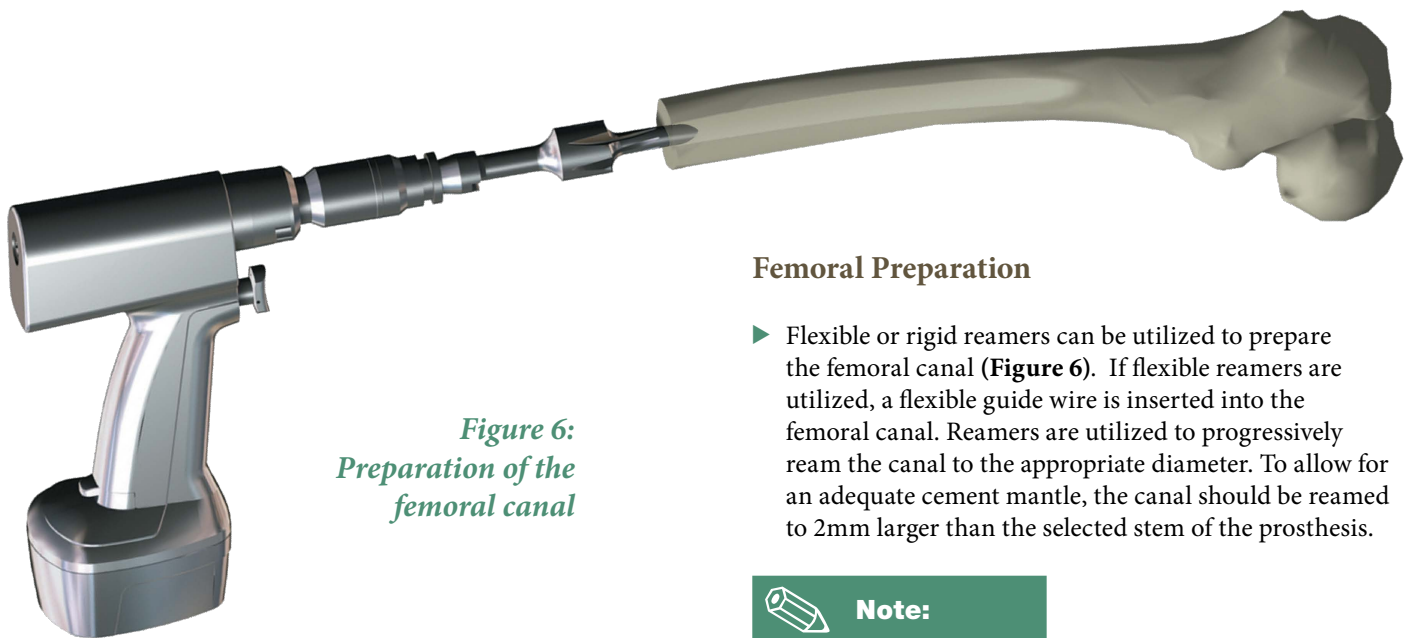

Figure 6:
- Flexible or rigid reamers can be utilized to prepare the femoral canal (**Figure 6**). If flexible reamers are utilized, a flexible guide wire is inserted into the femoral canal. Reamers are utilized to progressively ream the canal to the appropriate diameter. To allow for an adequate cement mantle, the canal should be reamed to 2mm larger than the selected stem of the prosthesis.